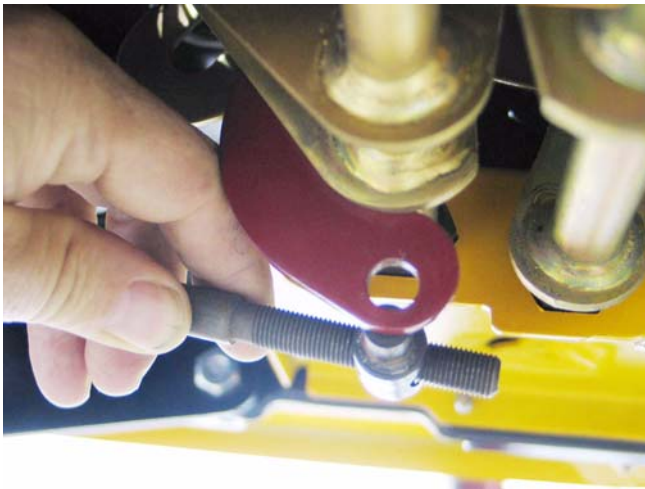

Figure 31.29
31.29. Thread the ferrule up or down the length of the hydro control rod until the post is centered in the hole that it fits into. At this point, the transaxle and the linkage are both synchronized in Neutral. See Figure 31.29.